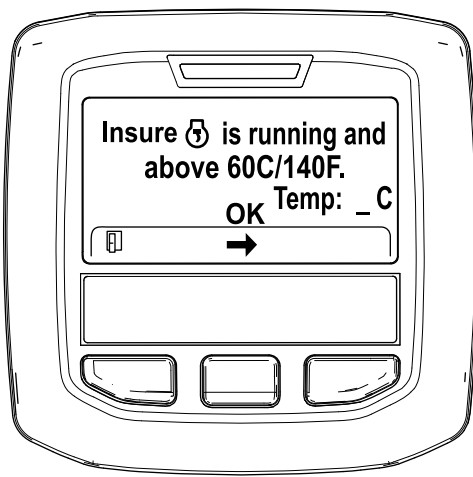

Figure 29
5. If the coolant temperature is below 60°C (140°F) the "Insure  is running and above 60C/140F" message displays. (Figure 29).